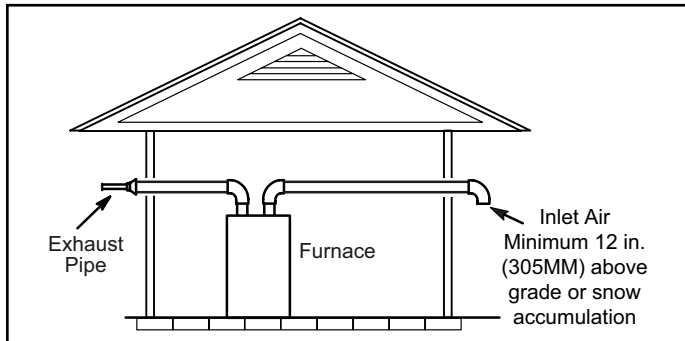
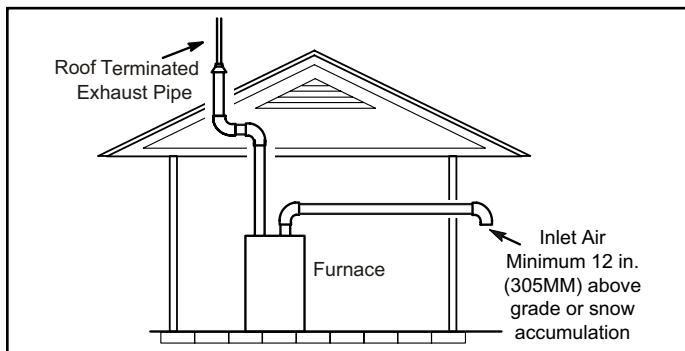

Figure 28. Exiting Exhaust and Intake Vent (no common pressure zone)
Figure 29. Exiting Exhaust and Intake Vent (no common pressure zone)
Intake and exhaust pipes may be routed either horizontally through an outside wall or vertically through the roof. In attic or closet installations, vertical termination through the roof is preferred. Figure 28 through Figure 36 show typical terminations.
1. Intake and exhaust terminations are not required to be in the same pressure zone. You may exit the intake on one side of the structure and the exhaust on another side (Figure 28). You may exit the exhaust out the roof and the intake out the side of the structure (Figure 29).